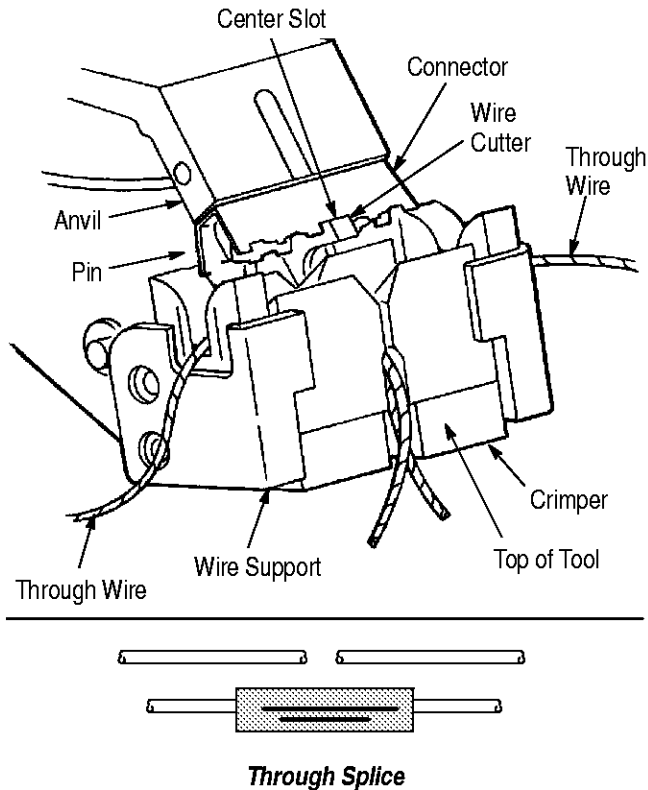

Figure 3
4. Insert the connector into the tool making sure the wire cutter enters the slots in the middle of the connector. See Figure 3. Crimp the connector as described in Section 6, CRIMPING PROCEDURE.